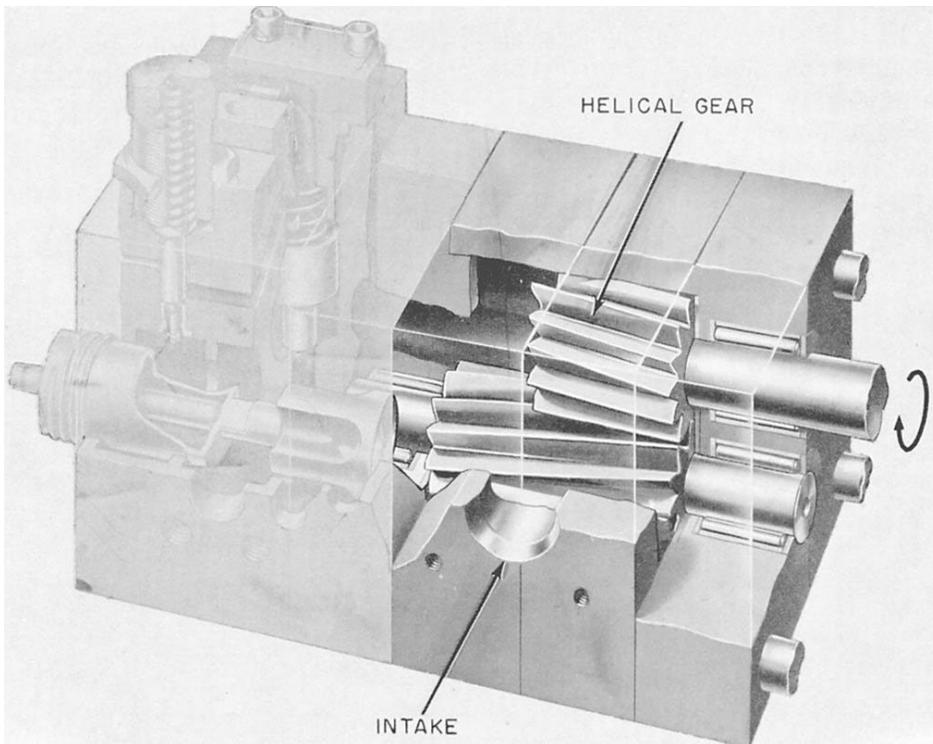

Figure 5-18.—Helical gear pump.
**HELICAL GEAR PUMP.**—The helical gear pump (fig. 5-18) is still another modification of the simple gear pump. Because of the helical gear design,